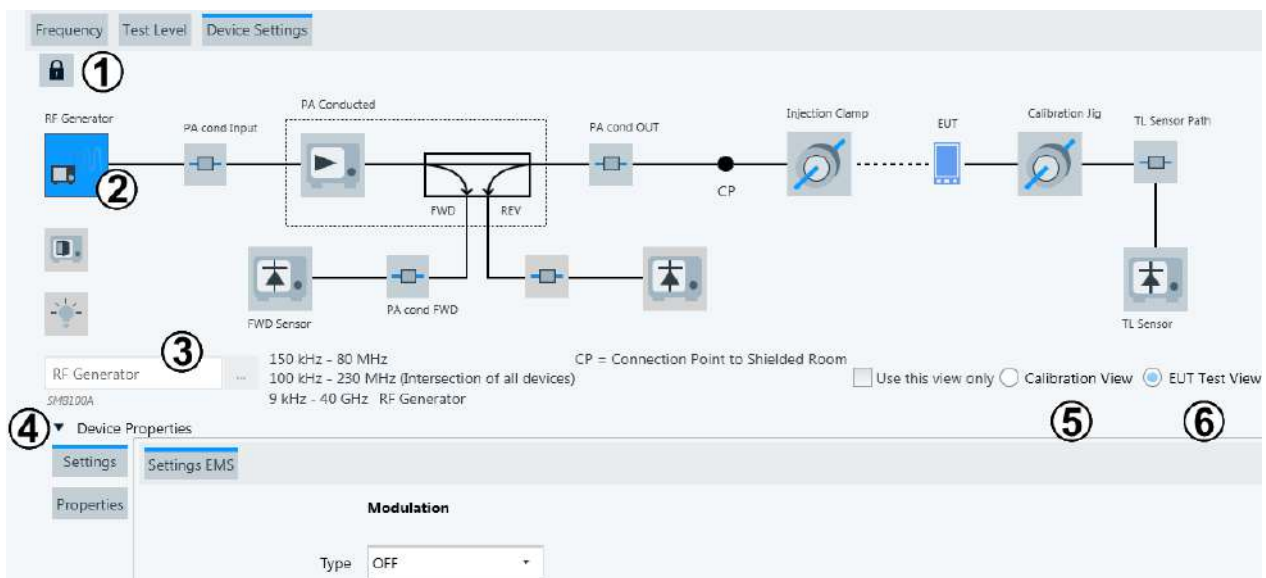

Figure 4-106: Example of a hardware setup diagram in an EMS test template (here: BC1)
Note: Before you can proceed, first configure an EMS hardware setup and select it for one or more frequency ranges. The software then shows the hardware setup diagram (Figure 4-106) specified in this hardware setup.
To get access to the properties or settings of a device or signal path, click its icon in the hardware setup diagram, for example the generator icon (labeled (2) in Figure 4-106).
This field, labeled (3) in Figure 4-106, displays the name of the device selected (highlighted) in the hardware setup diagram.
Click the "Calibration View" button, labeled (5) in Figure 4-106, to access the calibration version of the selected hardware setup diagram.
Click the "EUT Test View" button, labeled (6) in Figure 4-106, to access the EUT test version of the selected hardware setup diagram.
Specifies the properties of the lab instrument that is selected in the hardware setup diagram. In Figure 4-106, the selected item is the device icon (2) that is highlighted in blue.